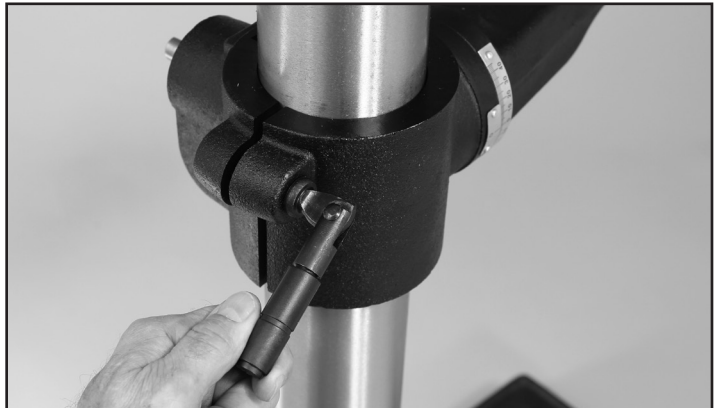

FIG. 2
1. Install the large Locking Lever (#12A) onto the rear joint of the table support bracket and tighten the locking lever. FIG. 2.